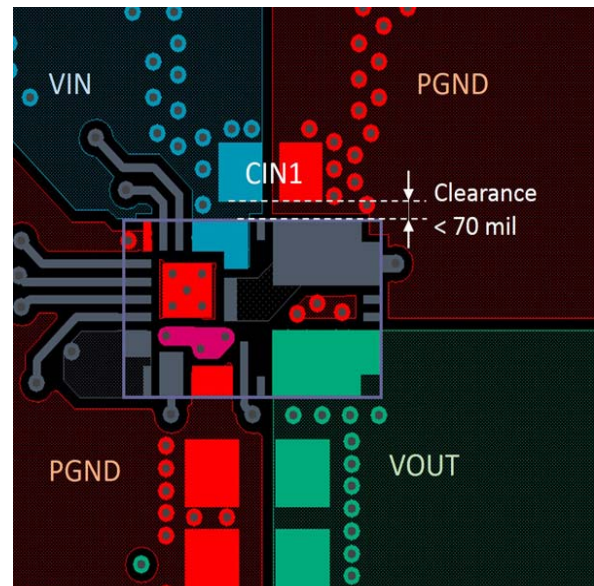
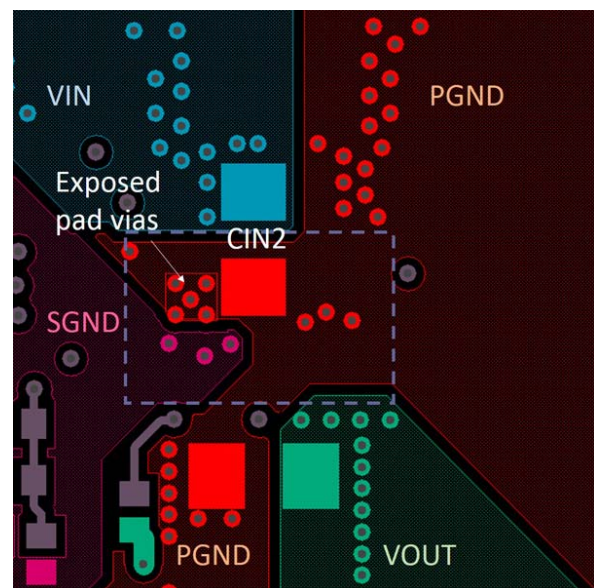

FIGURE 39. LAYOUT EXAMPLE - TOP LAYER
FIGURE 40. LAYOUT EXAMPLE - BOTTOM LAYER
A few layout considerations need to be taken into account in order to achieve proper operation of ISL8202M. An optimized layout design also allows the module to have lower power loss and good thermal performance. An illustrative layout example is shown in Figures 39 and 40. Key points are listed in the following:
- Place the input ceramic capacitors as close as possible to the module input. These ceramic capacitors are used to minimize the high frequency noise by reducing parasitic inductance of the switching loop. Optimized placement of these capacitors will not only lead to less switch node ringing but also minimize the noise seen by the module to insure proper operation. It is recommended to use X5R or X7R ceramic capacitors with minimum total capacitance of 44µF at module input. It is a **MUST** that one of the input capacitors (C_{IN1}) with no less than 3.3µF capacitance should be placed on the same layer (assuming top layer) as module and within less than 70 mil clearance to module input (refer to Figure 39). For capacitors on the bottom layer, it is recommended to have one (C_{IN2}) placed from VIN to PGND copper close to exposed pad (Pad 20) vias (as shown in the layout example in Figure 40).
- Use a separate SGND ground copper area for components that are connected to signal ground. Connect SGND copper to module Pad 22 through multiple vias (refer to Figure 40). Because Pad 22 is connected to module internal PGND at a